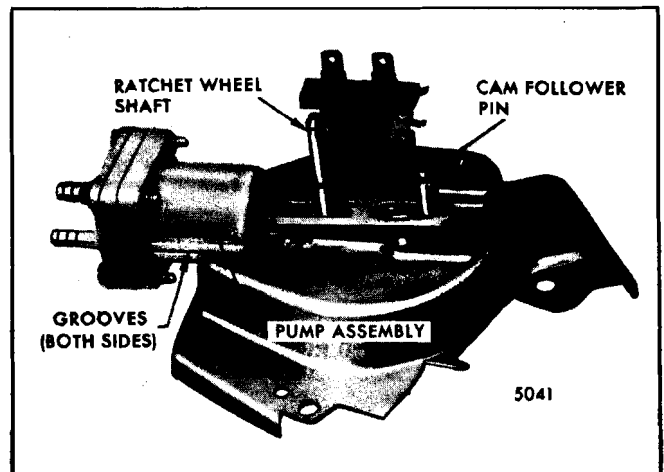

Fig. 2-78-Pump Assembly
7. Pull pump housing out until housing grooves clear the mounting surfaces; then lift the pump off the ratchet wheel shaft and cam follower pin (Fig. 2-78).